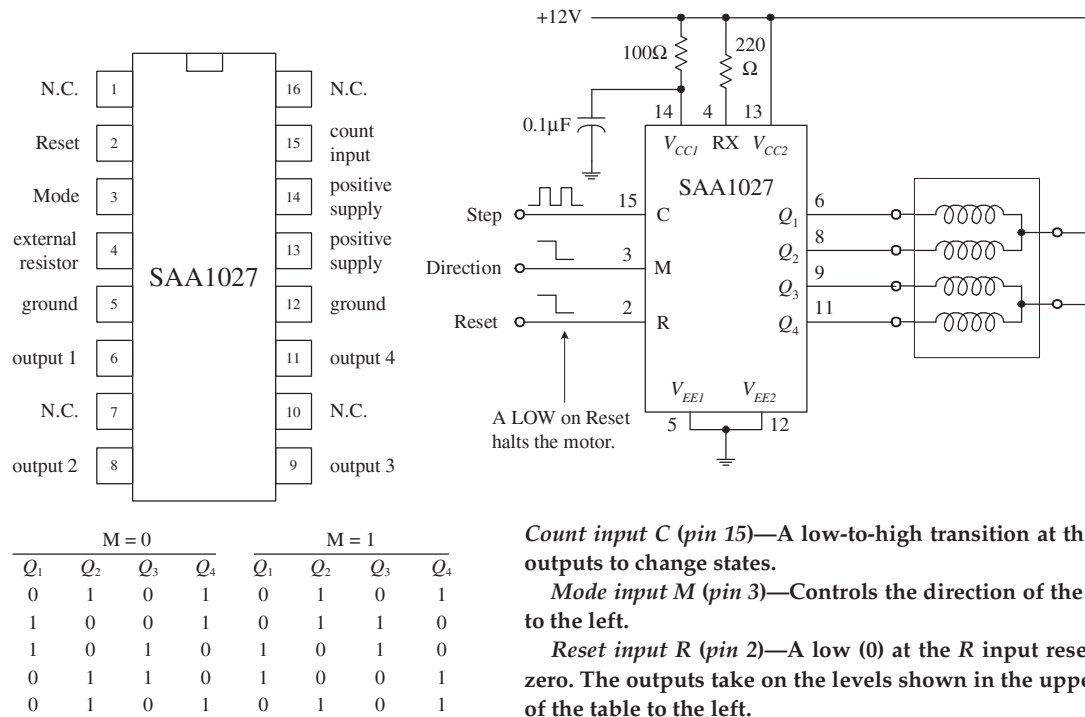

FIGURE 15.13
chip has high-noise-immunity inputs, clockwise and counterclockwise capability, a reset control input, high output current, and output voltage protection. Its supply voltage runs from 9.5 to 18 V, and it accepts input voltages of 7.5 V minimum for high (1) and 4.5 V maximum for low (0). It has a maximum output current of 500 mA. Figure 15.13 will paint the rest of the picture.